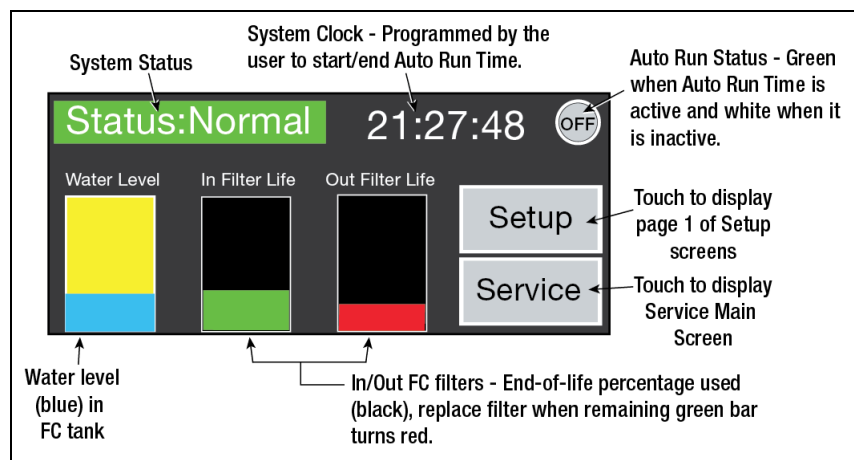

Figure 2. FCC Display Home Screen
The FCC display has a touch screen which is used to enter HydrX setup parameters, view operating status, manually initiate system tasks, and check system history logs. The FCC display home screen is shown in Figure 2.
4. Touch the **Home** button to return to the Home screen (see Figure 2).